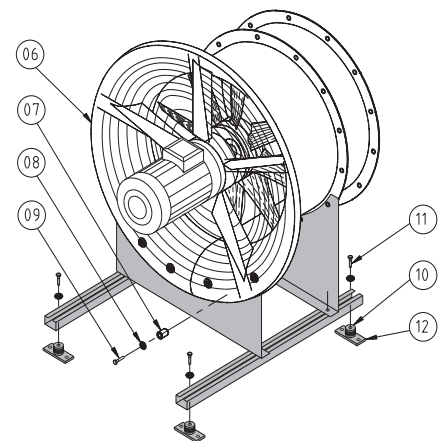

Figure 4. Mounting foot for types ACP and ACG 250-1120 (optional)
Mount the fan casing in the two flange holes of the mounting plates and mount the distance bush (fig. 4, item 07) by means of joining elements (items 08 and 09) between inlet cone and mounting plate (item 06).
Secure anti-vibration mountings (fig. 4, item 10) in the ends of the c-profile by means of bolts (item 11).